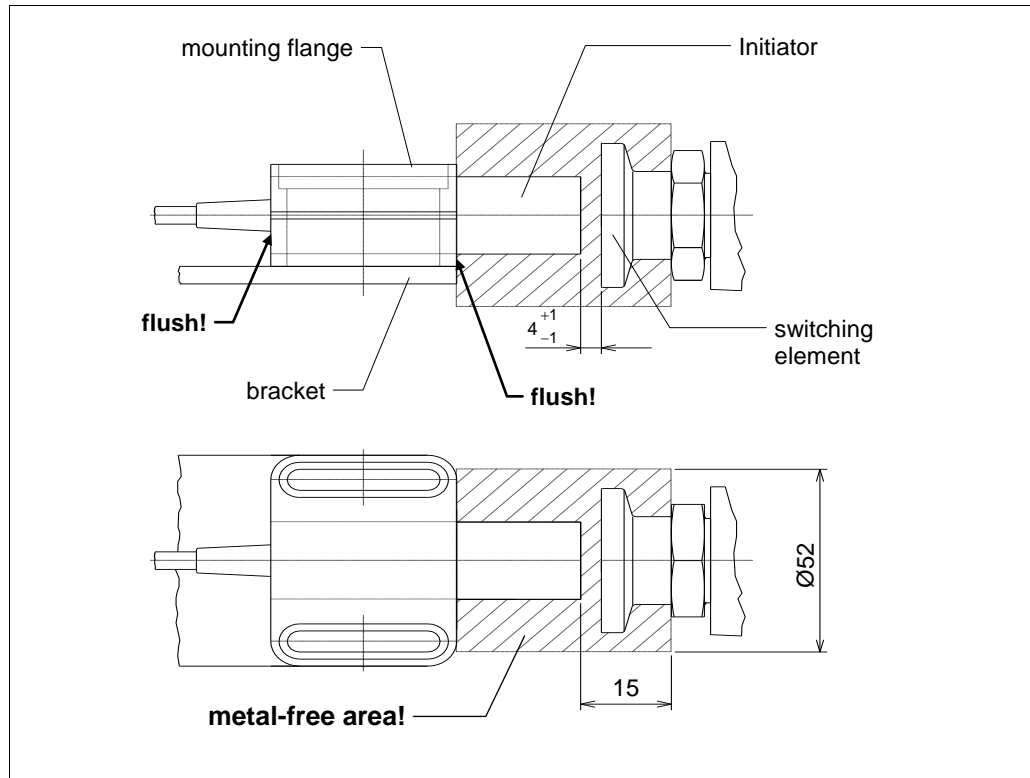

Fig. 10
- Observe the metal-free area (15mm) around the initiator head (→ Fig. 10)!